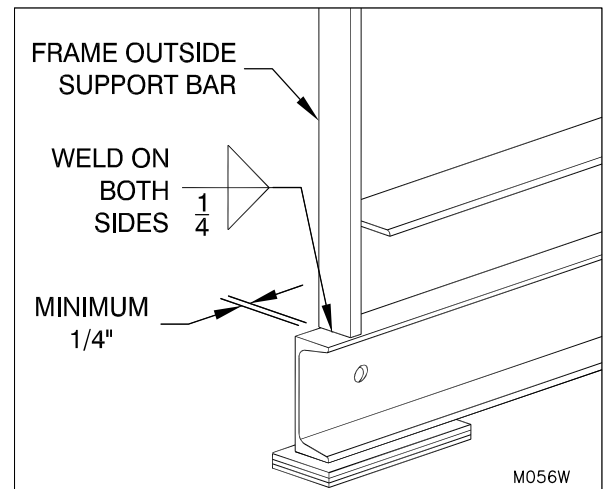

Figure 23: 30,000 lb + Outer Rear Shims (4" Shim Kit Channel Shim Shown)
19. ___ For 30,000 AD models and higher capacities, weld the additional two rear shims to the outside support bar of the frame as shown in "Figure 23: 30,000 lb + Outer Rear Shims (4" Shim Kit Channel Shim Shown)" on page 19 and shim until they are fully supported. Weld all of the shims to each other as well as to the dock leveler frame.